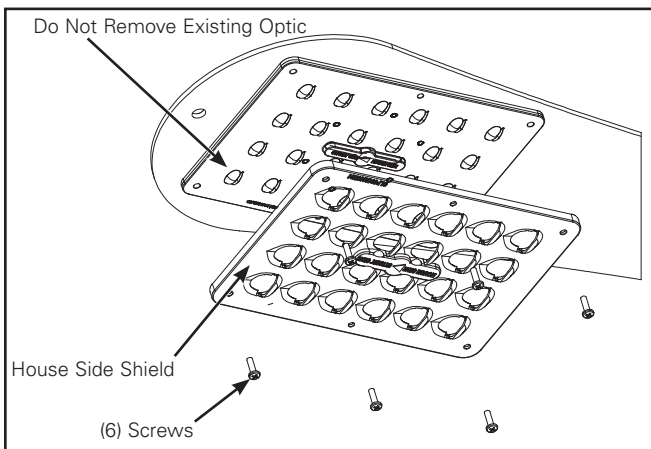

Figure 2.
2. Install house shield so that all six holes align with holes on the existing optic. (Figure 2)
Note: Do Not remove existing optic. (Figure 2)